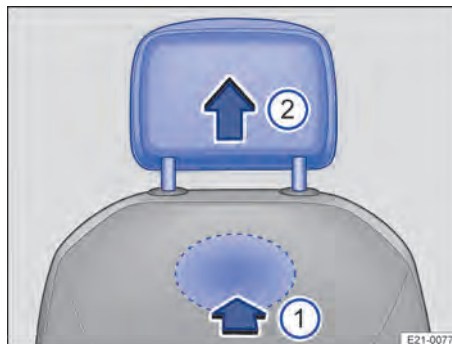

Fig. 81 On the rear of the front seats: removing the head restraint.
2. To unlock the head restraint, feel for the recess in the marked area on the rear of the backrest and use a finger to press it in the direction of the arrow → Fig. 81 ①.
3. For seats with a stowage area in the backrest, press the recess by pushing a long object through the hole in the upper part under the rubber strap on the stowage area → ①.
4. Pull the head restraint out fully in the direction of the arrow → Fig. 81 ②.